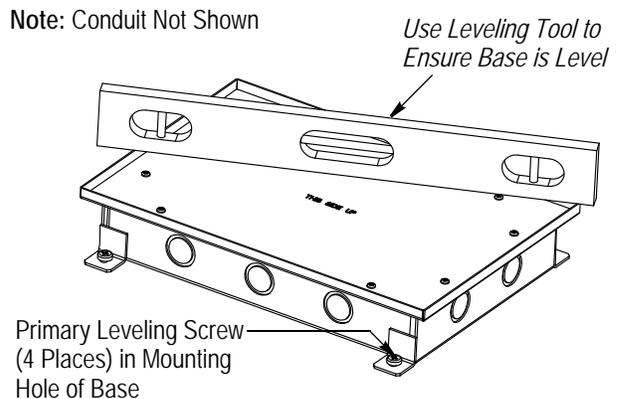

Figure 4
6. Install the four primary leveling (1/4-28x1 1/2-in. pan head) screws in the mounting holes of the base, and turn the screws as required to level the base. The lip of the concrete cover should be flush with the top of the concrete floor. Secure the base to the floor as required for the application and in accordance with electrical codes. See Figure 4.